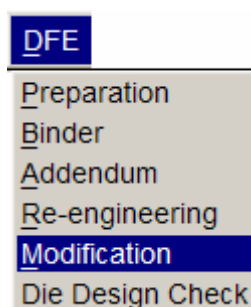

Figure 44 DFE menu
1. Select **DFE→Modification** from the menu bar, as illustrated in Figure 44.